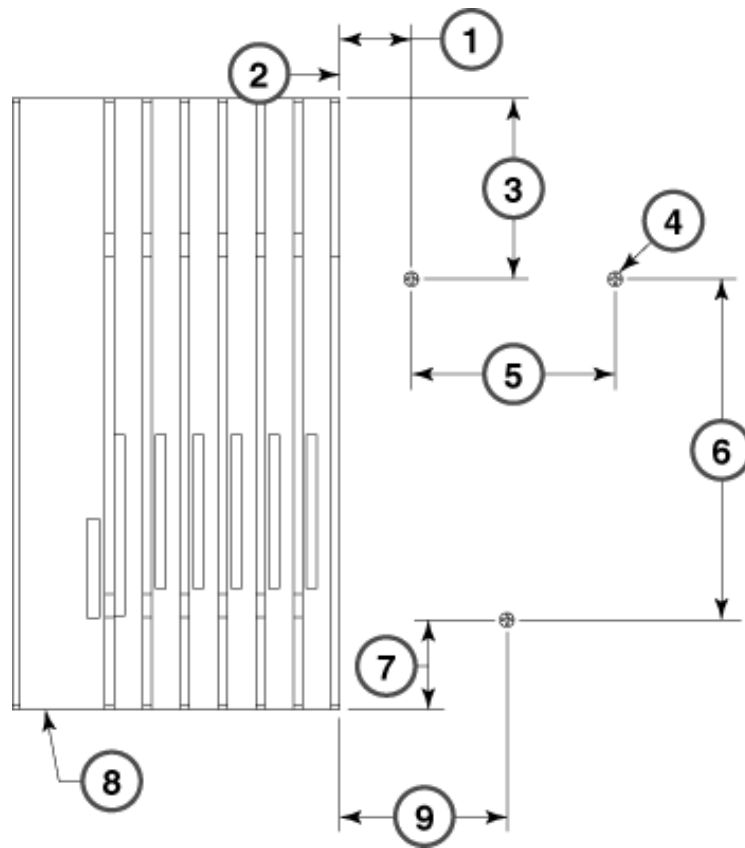

Figure 8-4. Positioning Mounting Screws
- If you are not using mounting brackets to mount the expansion carrier, see Figure 8-4 for the correct positioning of the mounting screws.